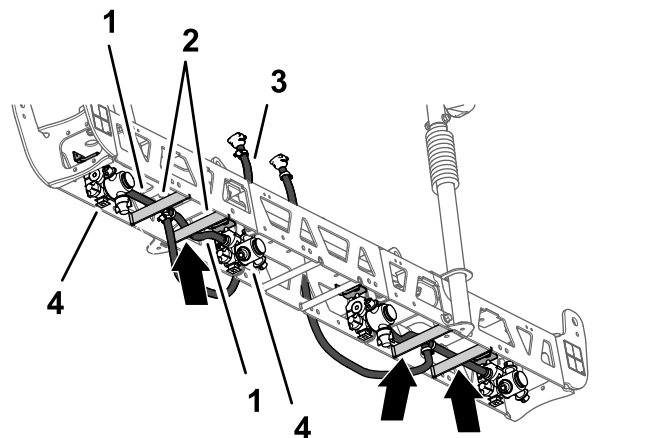
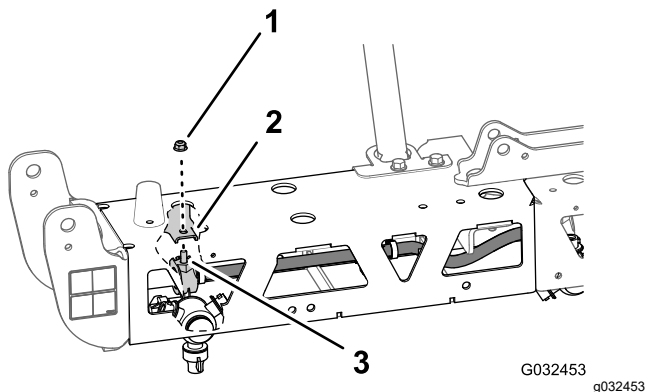

Figure 60
Figure 61
1. Route the hose 13 mm (10 inches) and nozzle assembly between the truss braces of the outer truss (Figure 60).
- Route the hose and nozzle above the truss brace and outward to the outboard nozzle mount (Figure 60).
- Align the hex-head bolt (5/16 x 3/4 inch) of the sprayer nozzle through the hole in the nozzle mount and loosely secure the nozzle to the mount with a flange locknut (5/16 inch) from the GeoLink spray system finishing kit (Figure 61).
- Route the other hose 13 mm (10 inches) and nozzle assembly between the s truss braces of the outer truss (Figure 60).
- Route the hose and nozzle above the truss brace and inward to the inboard nozzle mount (Figure 60).
- Align the hex-head bolt (5/16 x 3/4 inch) of the sprayer nozzle through the hole in the nozzle mount (Figure 61) and loosely secure the nozzle to the mount with a flange locknut (5/16 inch) that you removed in steps 1 and 4 of Removing the Sprayer Nozzles (page 28).
- Route the hose and barbed coupler 13 x 810 mm (1/2 x 32 inches) to the side of the center-spray section with the left and right support brackets (Figure 60).
- Repeat steps 1 through 8 for the other hose and nozzle assembly at the other outer truss (Figure 60 and Figure 61).